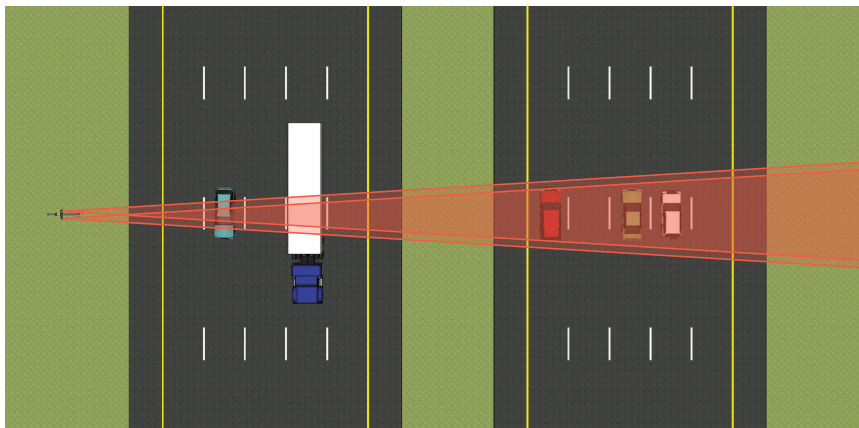

Figure 1.5 - Side-to-side Positioning should be Perpendicular
- 2 Adjust the side-to-side angle so that it is as close to perpendicular to the flow of traffic as possible (see Figure 1.5).